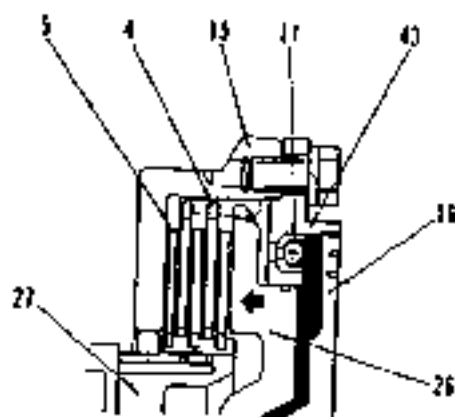

Fig. 2-19 No. 5 Clutch engagement
When No. 5 clutch is engaged (Fig. 2-19), the oil from the control valve under pressure is supplied to the back of the piston (26) and the pressurized oil also pushes the check valve ball (17) to close the valve seat port. The clutch is quickly engaged.